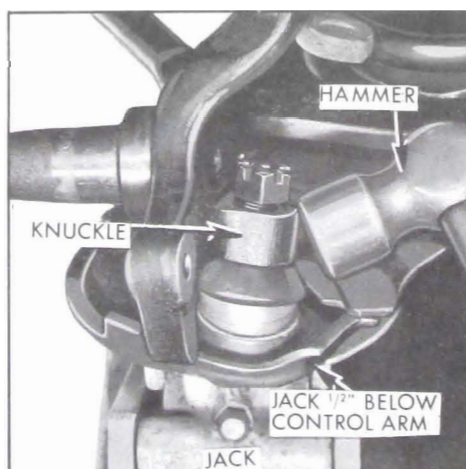

Figure 7-24—Separating Ball Stud from Steering Knuckle
8. Rap the steering knuckle in the area of the stud to separate the stud from the knuckle. See Figure 7-24. Raise the jack against the control arm to relieve pressure on the nut, remove the nut and separate the steering knuckle from the tapered stud.